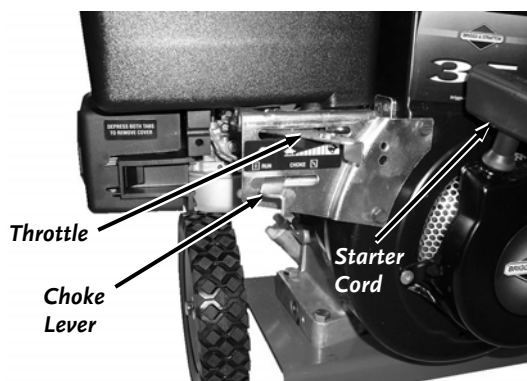

Figure 18
10. Move the throttle to FAST and the Choke Lever to CHOKE (**Figure 18**).